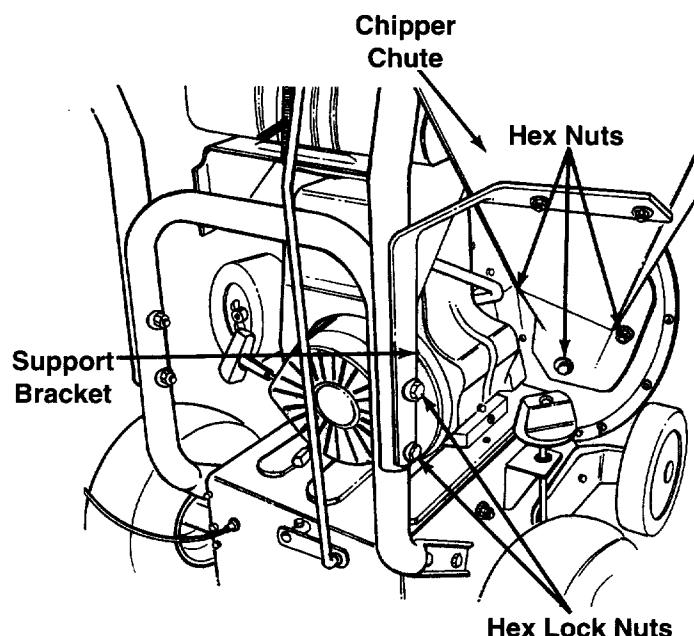

FIGURE 4.—View from the operator's position
- Remove the two hex bolts, flat washers, and nuts which are attached to the support bracket. See figure 4.
- Remove the two hex lock nuts from the hex bolts which secure the right side of the upper handle to the lower handle. Leave the bolts in place. See figure 4.
- Remove the three cupped washers and hex nuts from the weld studs. You will find these weld studs beside the opening on the right side of the chipper vacuum. See figure 4.
- Place the chipper chute over the weld studs. Secure with cupped washers and hex nuts that you earlier removed. See figure 4.